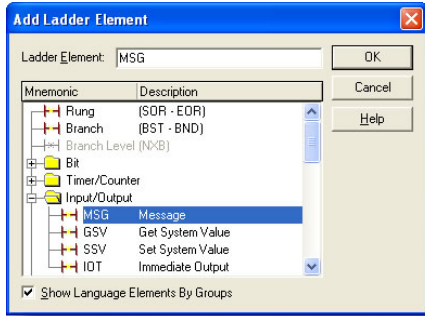

Figure 101: Adding a MSG Instruction
- d) Select the "MSG" instruction in the Input/Output folder. Refer to Figure 101.